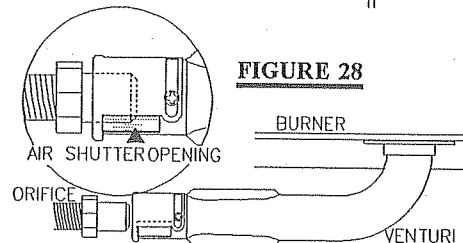

FIGURE 28
8. Set the venturi air shutter (located at the burner bottom) to 3/16" open for natural gas and 5/16" open for propane. FIGURE 28.